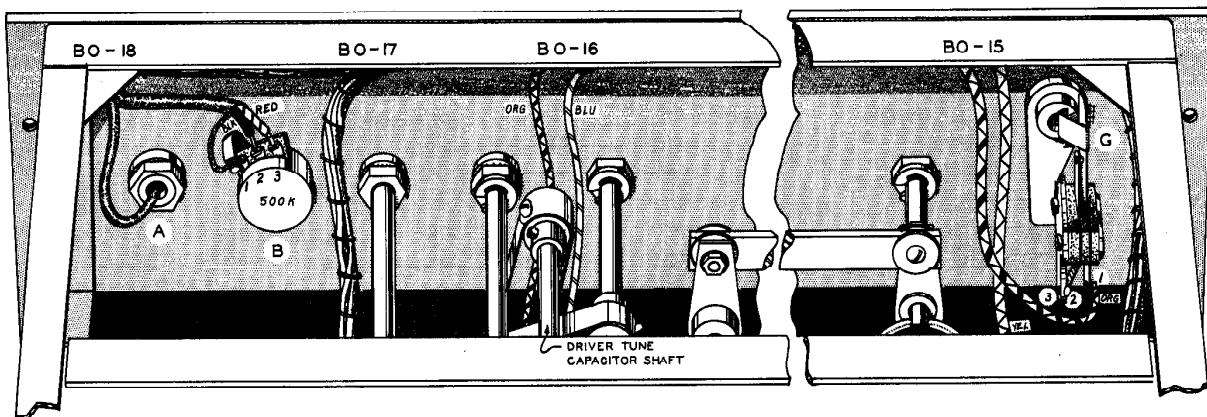

Figure 38
- (✓) Referring to Figure 38, mount the .5 megohm potentiometer with the 9/16" long bushing at the "GAIN" location, using a control solder lug on the rear of the front apron and a 3/8" flat washer and nut on the front of the panel. Orient the lugs and solder lug as shown, lugs to the left and the solder lug under lug 1 of the control. Do not secure tightly as yet.
- (X) Mount the mike connector at the "MIKE" location on the panel, placing a 3/8" lockwasher under the nut on the rear side of the chassis front apron. Secure lightly.
- (X) Mount the key jack at the "KEY" location and orient as shown. Use 3/8" flat washer and nut on the front of the panel. Do not secure tightly as yet.
- (X) Adjust the bottom edge of the panel even with the chassis bottom, and then secure all the nuts on the components and bushings holding the panel to the chassis. Replace the "E" retaining ring at D.
- (X) Rest the transmitter on its left end once again. At BO-18 connect the black lead from the two conductor shielded cable to lug 2 of the gain control (S1) and the red lead to lug 3 (S1). Bend the ground lug to touch lug 1 of the control and connect the shield pigtail to lug 1 of the control. Now solder the entire connection at lug 1 of the control (S2).
- (X) Pass the center conductor of the remaining shielded wire through the contact hole in the mike connector and solder. Trim off any excess wire from the center contact.
- (X) Connect the remaining orange wire at BO-15 to lug 1 of the key jack (S1).
- (X) Rotate the bandswitch through its entire travel and check to make sure the linkage clears all electrical connections on the back of the panel, especially those on the plate switch. Bend the switch lugs or reposition the linkage, if necessary.